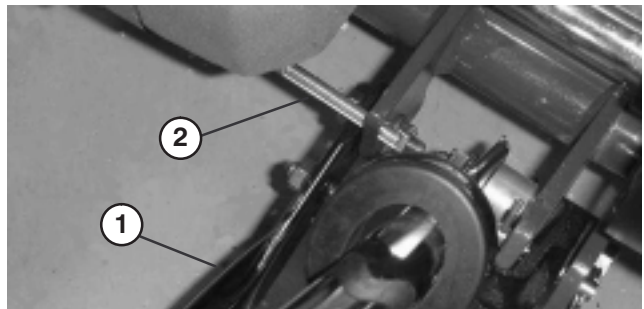

Figure 11
2. Lower kick stand. Insert a 1/4" dia. pin or equivalent into frame hole above kick stand mounting bolt (Fig. 11).